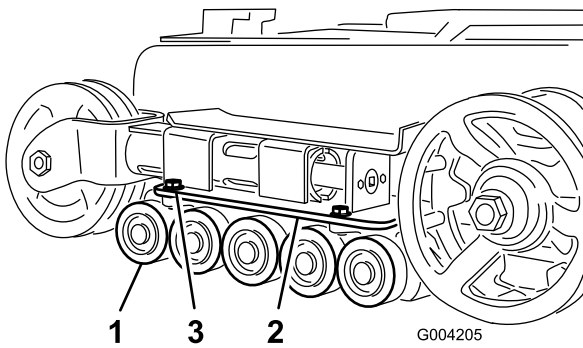

Figure 41
2. Remove the 4 bolts securing each lower track guide which contains the road wheels, and remove them (Figure 41).